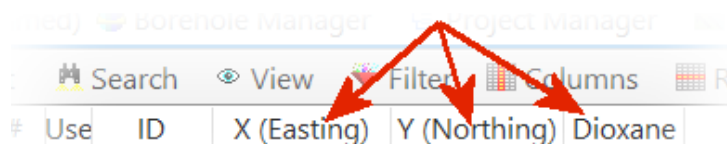

Figure 7
- Repeat this process for the other columns (Figure 7).